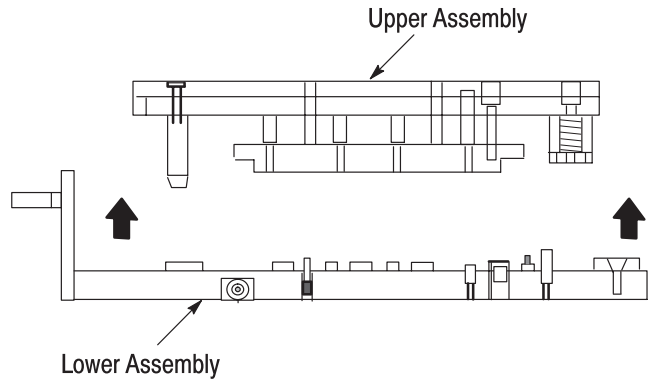

Figure 2
1. Remove the upper assembly (punch holder) from the lower assembly (die block). Use a hoist if available. See Figure 2.